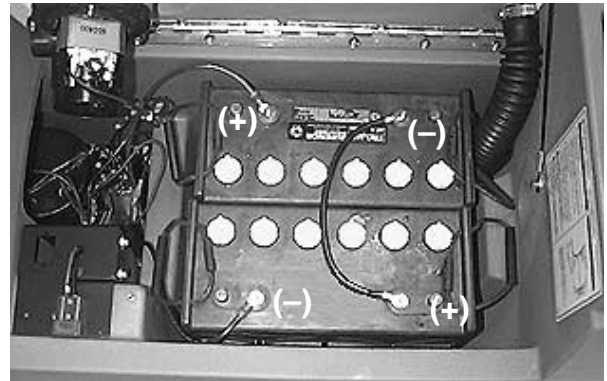

FIG. 2
3. Carefully install batteries into battery tray at bottom of compartment and arrange battery posts as shown (*Figure 2*).
4. Connect battery cables to battery posts as shown (RED TO POSITIVE & BLACK TO NEGATIVE) (*Figure 2*).